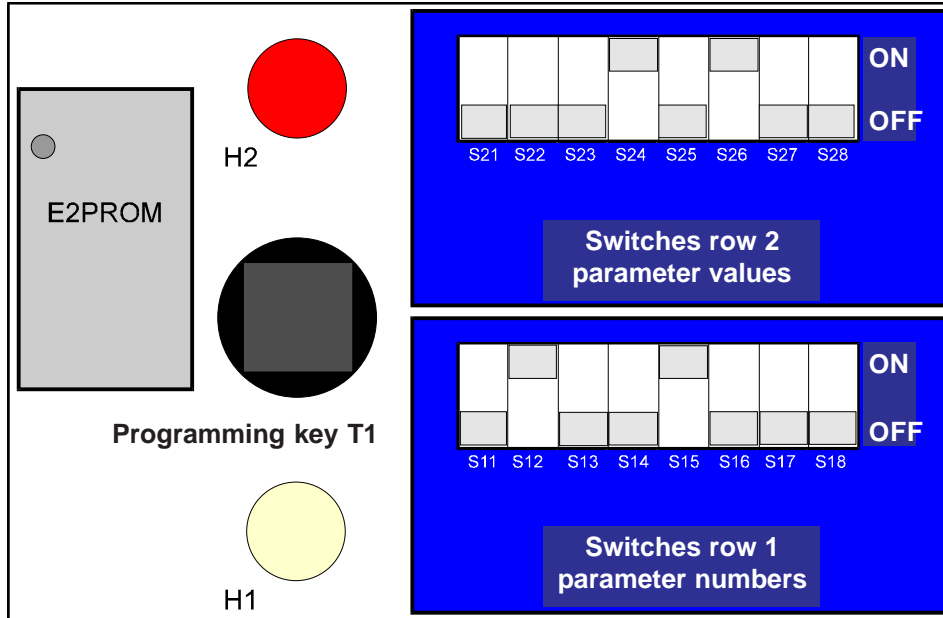

fig.10.2
- 2 Switch into the programming 4 by pressing key T1 (**fig.10.2**) on the mini operator's control panel.